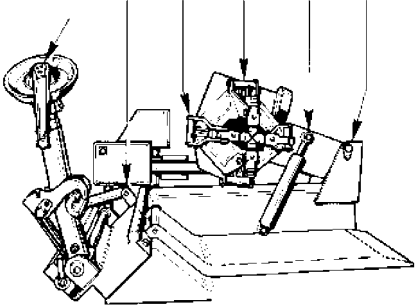

Fig.51
1. Lubricate all points provided once a month (fig.51).